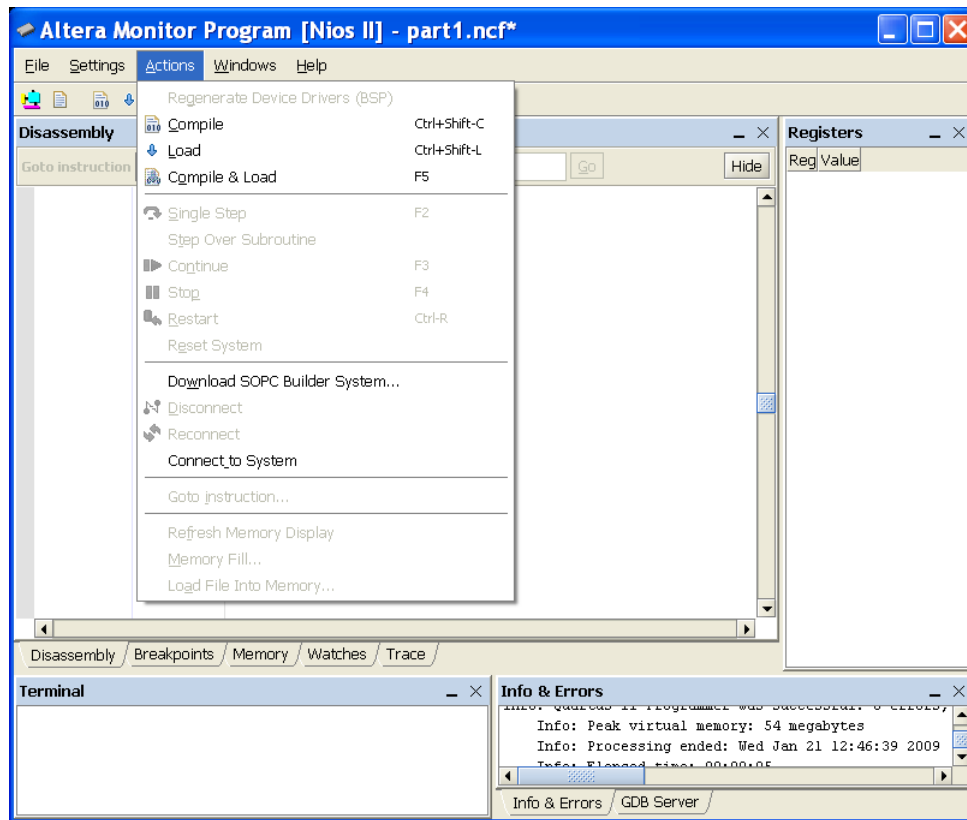
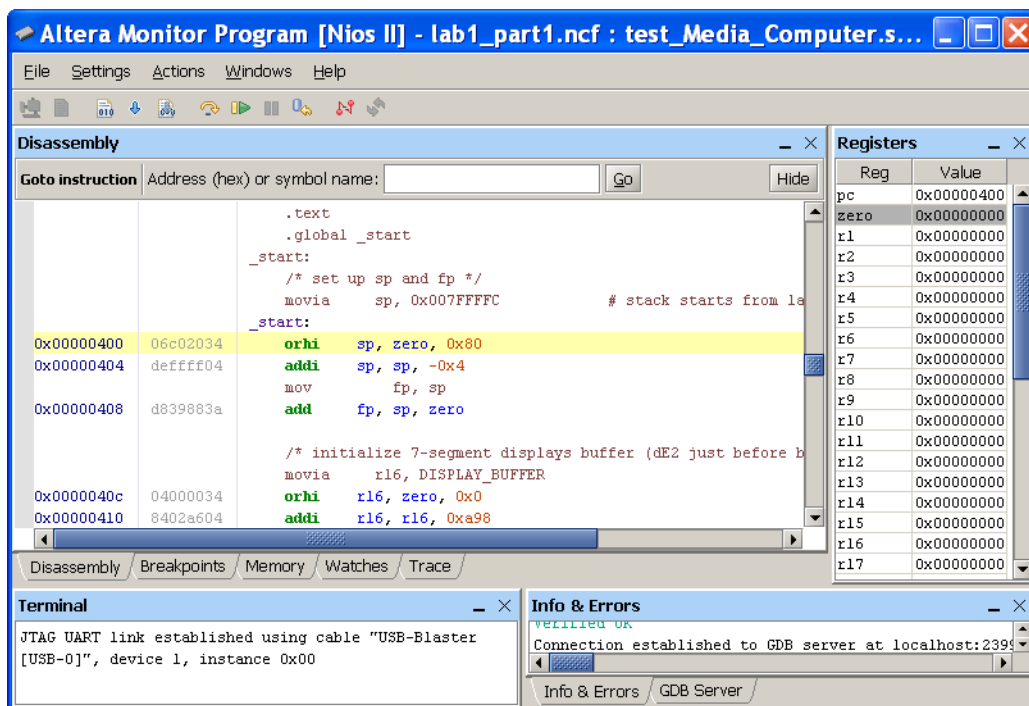

Figure 8. Specify an action in the monitor window.
Figure 9. The monitor window showing the loaded sample program.
9. Having downloaded the DE-series Media Computer into the FPGA chip on the DE-series board, we can now load and run programs on this computer. In the main monitor window, shown in Figure 8, select **Actions > Compile & Load** to load the selected sample program into the FPGA chip. Figure 9 shows the monitor window after the sample program has been loaded.